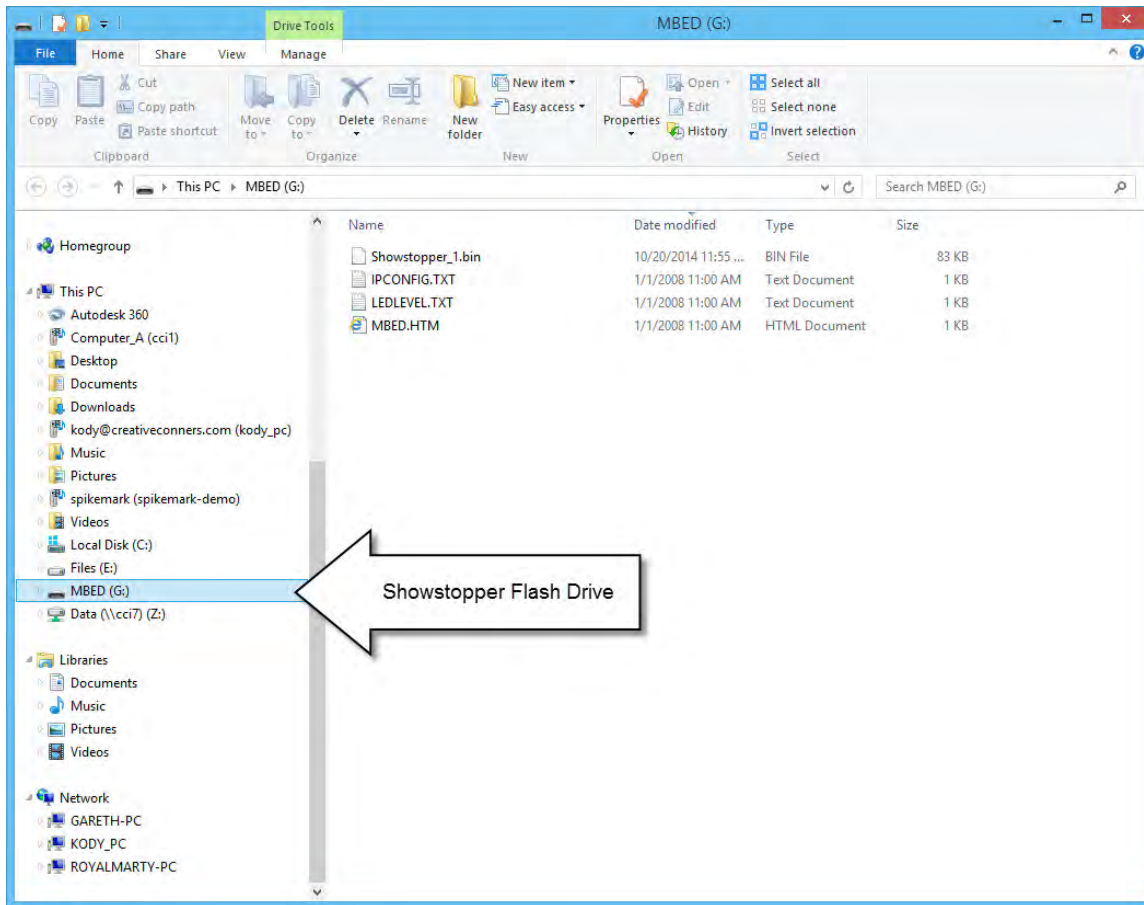

Figure 53
5. Connect the USB cable to your computer. The Showstopper will mount like a drive in Windows Explorer (Figure 53). The drive will be named MBED.